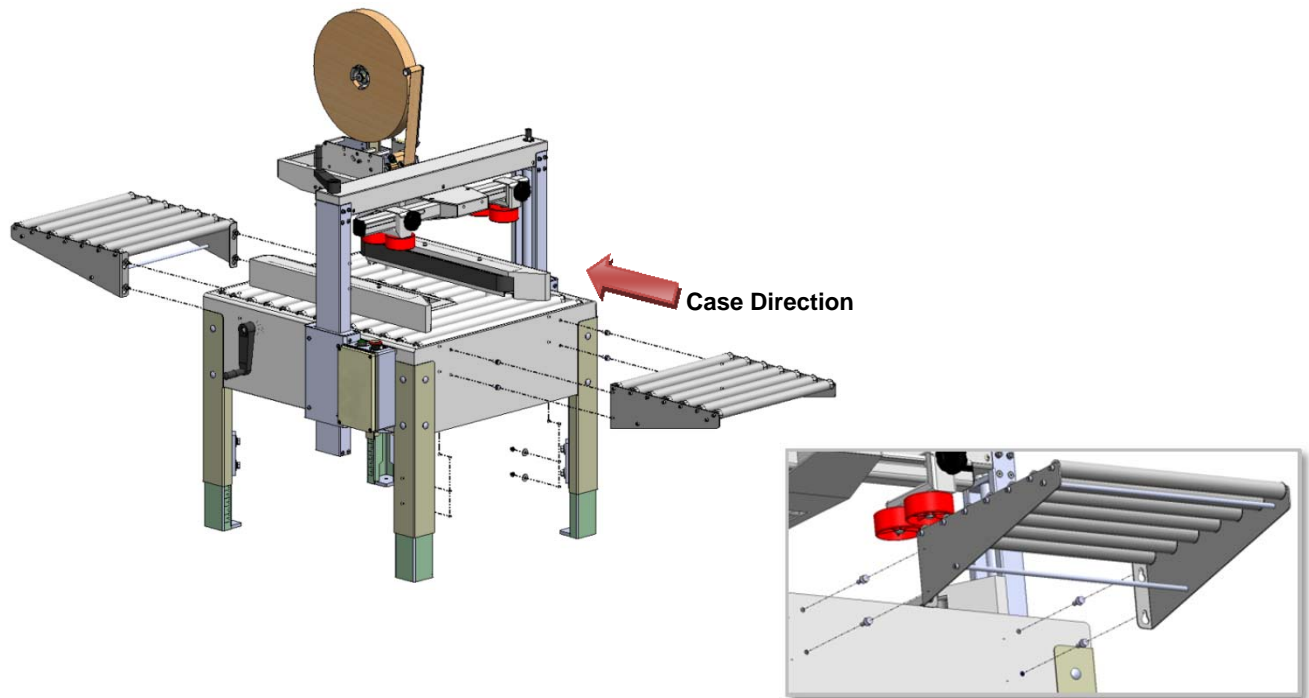

Figure-9
- a. Install Four (4) Mounting Studs Into Machine Base With Hardware Included With Roller Table. Per **Figure-9**.